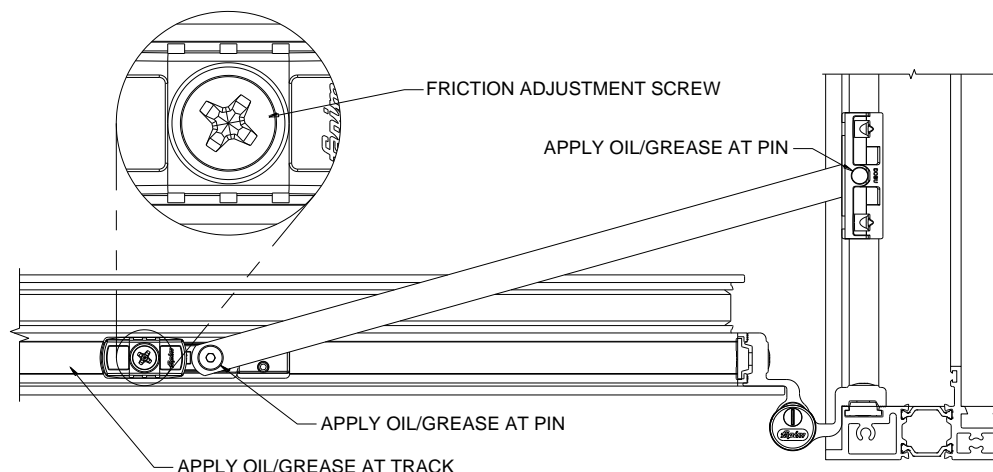

Figure 33
- Apply a light coat of oil as required on the at the arm pins and the leaf track (Figure 33), care must be taken when applying oil as it may stain other components of the door system.